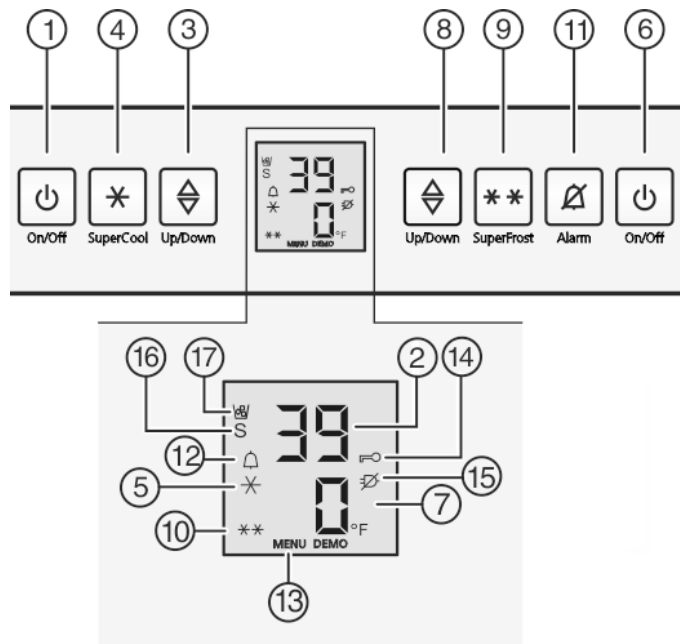

Fig. 3
- ▶ Press the freezer compartment On/Off button *Fig. 3 (6)*.
- ▶ Press the refrigerator compartment On/Off button *Fig. 3 (1)*.
- ▶ Activate setting mode: Press SuperFrost button *Fig. 3 (9)* for about 5 seconds.
- ▷ The Menu symbol *Fig. 3 (13)* lights up.
- ▶ Use the Set freezer compartment button *Fig. 3 (8)* to select °.
- ▶ To confirm: Briefly press SuperFrost button *Fig. 3 (9)*.
- ▶ Select °F oder °C with the Freezer compartment set button *Fig. 3 (8)*.
- ▶ To exit setting mode: Press Freezer compartment On/Off button *Fig. 3 (6)*.
- ▶ To activate setting mode: Press and hold the SuperFrost button *Fig. 3 (9)* for approx. 5 seconds.
- ▷ In the display, the Menu Symbol *Fig. 3 (13)* is displayed.
- ▶ Use the Set freezer compartment button *Fig. 3 (8)* to select **c**.
- ▶ Confirm briefly by pressing the SuperFrost button *Fig. 3 (9)*.
▷ The Child Safety symbol *Fig. 3 (14)* lights up on the display.
- ▶ Press the freezer compartment On/Off button *Fig. 3 (6)* briefly.
▷ In the display, the Menu Symbol *Fig. 3 (13)* is displayed.